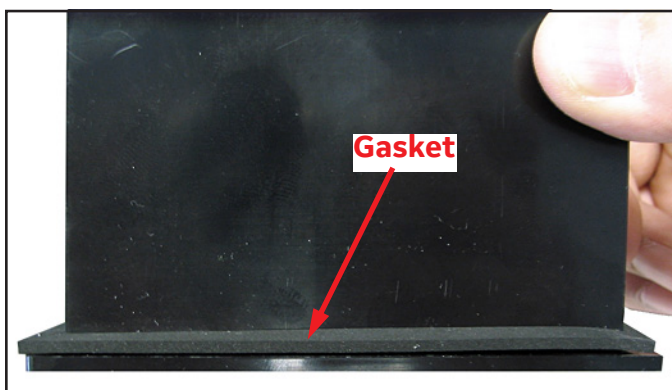

Figure 10: Installing the Gasket Behind the Display
2. Slide the gasket along the **dew.IQ** and place it around the back of the display (see *Figure 10* below).